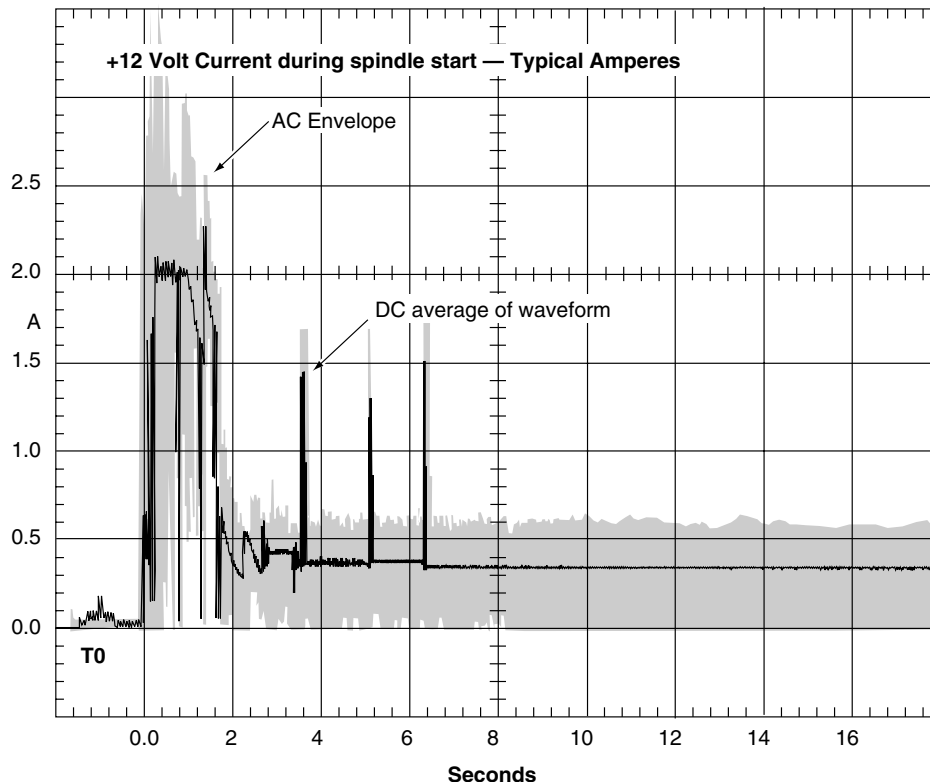

Figure 2. Typical ST336938/ST336918/ST318438/ST318418 drive +12 V current profile
- [3] See +12 V current profile in Figure 2.
Figure 2 identifies the drive +12 V current profiles. The current during the various times is as shown: